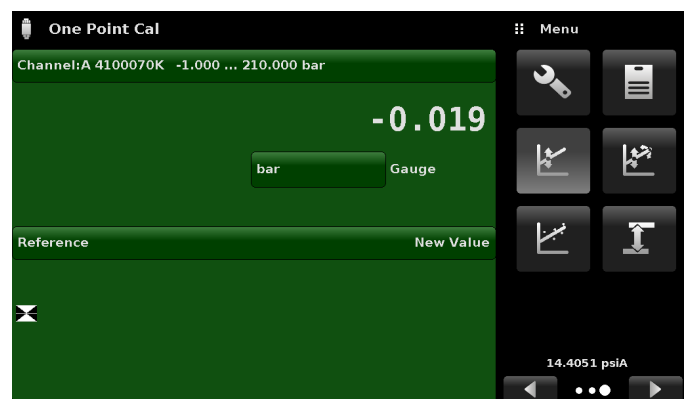

FIGURE 7.4- ONE POINT CALIBRATION
A single point calibration (usually a zero point calibration) of each transducer installed can be accomplished in “One Point Cal” Application. The transducer channel is chosen by pressing the “Channel” button at the top of this screen, and then selecting from the list of installed transducers. For gauge pressure simply expose the reference and the Measure/Control port of the SPC4050 to atmospheric pressure and then press the “New Value” button and enter zero (0) using the keypad. For an absolute transducer, apply a known reference pressure between 600 mTorr absolute and 20% of the active transducer’s span to the Measure/Control port of the SPC4050, press the “New Value” button and then enter the reference pressure (known true pressure) using the keypad. If you want to save the value in the transducer, press Save. See Figure 7.4 for the One Point Calibration Application.